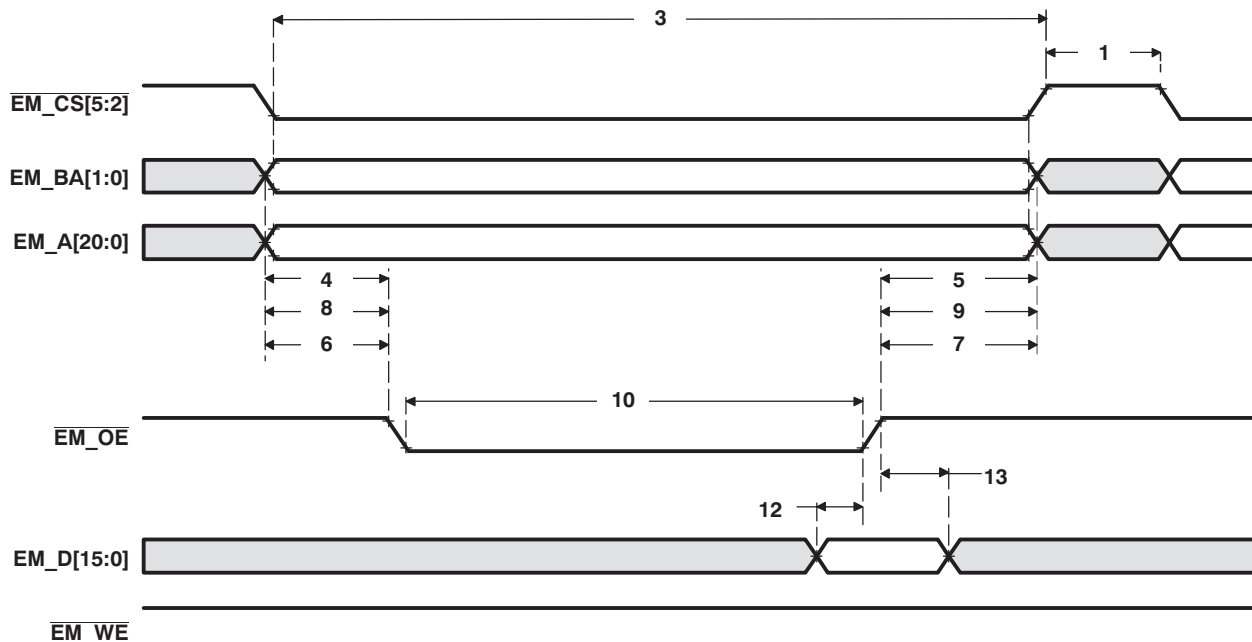
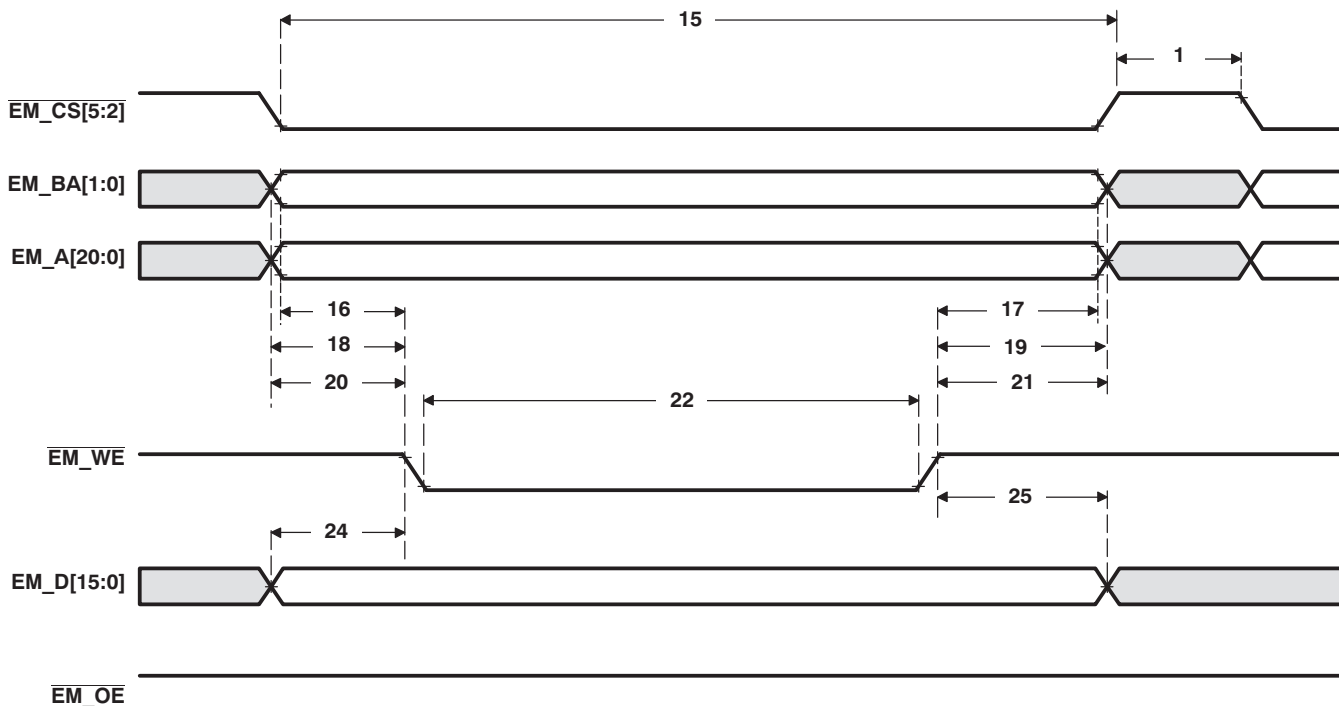
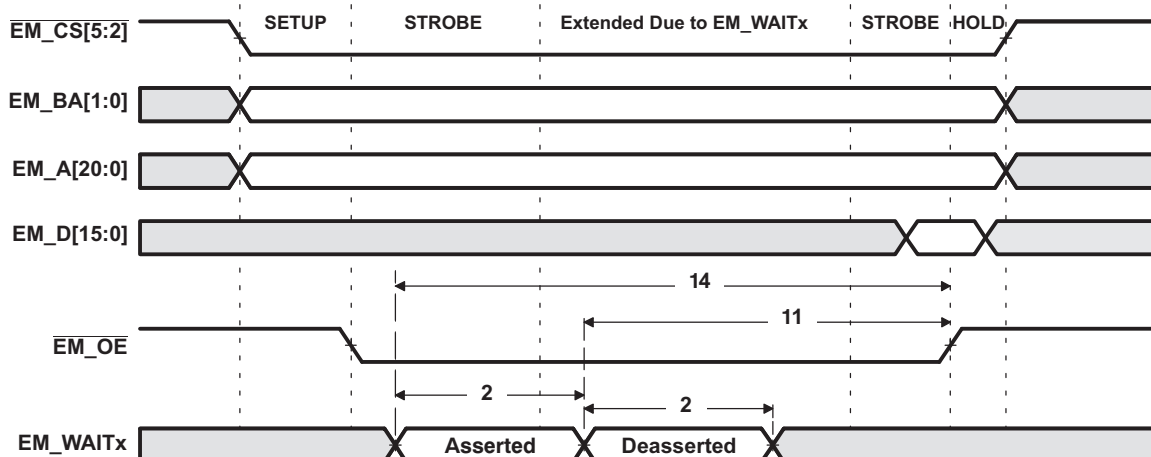
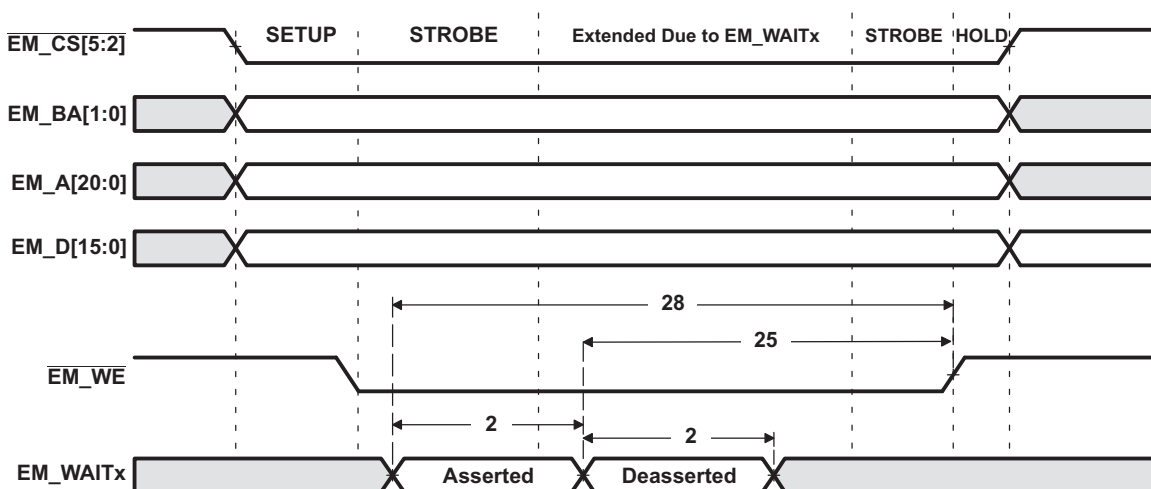

Figure 6-14. Asynchronous Memory Read Timing for EMIF
Figure 6-15. Asynchronous Memory Write Timing for EMIF
Figure 6-16. EM_WAITx Read Timing Requirements
Figure 6-17. EM_WAITx Write Timing Requirements
Table 6-13. Switching Characteristics Over Recommended Operating Conditions for EMIF Asynchronous Memory^{(1) (2)} (see Figure 6-15 and Figure 6-17)⁽³⁾
Table 6-13. Switching Characteristics Over Recommended Operating Conditions for EMIF Asynchronous Memory ⁽¹⁾ ⁽²⁾ (see Figure 6-15 and Figure 6-17) ⁽³⁾ (continued)
Table 6-14. Timing Requirements for EMIF Asynchronous Memory⁽¹⁾ (see Figure 6-14, Figure 6-16, and Figure 6-17)
- (1) E = SYSCLK period in ns, if EMIF is set for "full rate" **or** E = SYSCLK/2 period in ns, if EMIF is set for "half rate" as defined by bit 14 of the EMIF Status register (0x1001h). For example, when EMIF is set to full rate and SYSCLK is selected and set to 100 MHz, E = 10 ns.
- (2) Setup before end of STROBE phase (if no extended wait states are inserted) by which EM_WAITx must be asserted to add extended wait states. Figure 6-16 and Figure 6-17 describe EMIF transactions that include extended wait states inserted during the STROBE phase. However, cycles inserted as part of this extended wait period should not be counted; the 4E requirement is to the start of where the HOLD phase would begin if there were no extended wait cycles.
Table 6-15. Switching Characteristics Over Recommended Operating Conditions for EMIF Asynchronous Memory^{(1) (2) (3)} (see Figure 6-14, Figure 6-16, and Figure 6-17)
Table 6-15. Switching Characteristics Over Recommended Operating Conditions for EMIF Asynchronous Memory ⁽¹⁾ ⁽²⁾ ⁽³⁾ (see Figure 6-14 , Figure 6-16 , and Figure 6-17) (continued)